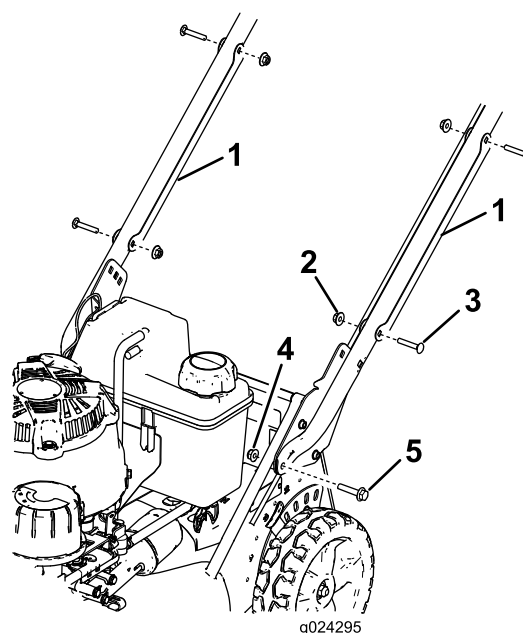

Figure 3
1. Remove the 2 cable guards from the handle (Figure 3) by removing the 2 carriage bolts and 2 locknuts that hold each cable guard to the handle.
inches) and 2 flange nuts (5/16 inch) as shown in Figure 3.
6. Position each cable guard onto the handle with the cable(s) inside the guard, and secure each to the handle with the 2 carriage bolts and the 2 locknuts that you previously removed (Figure 3).